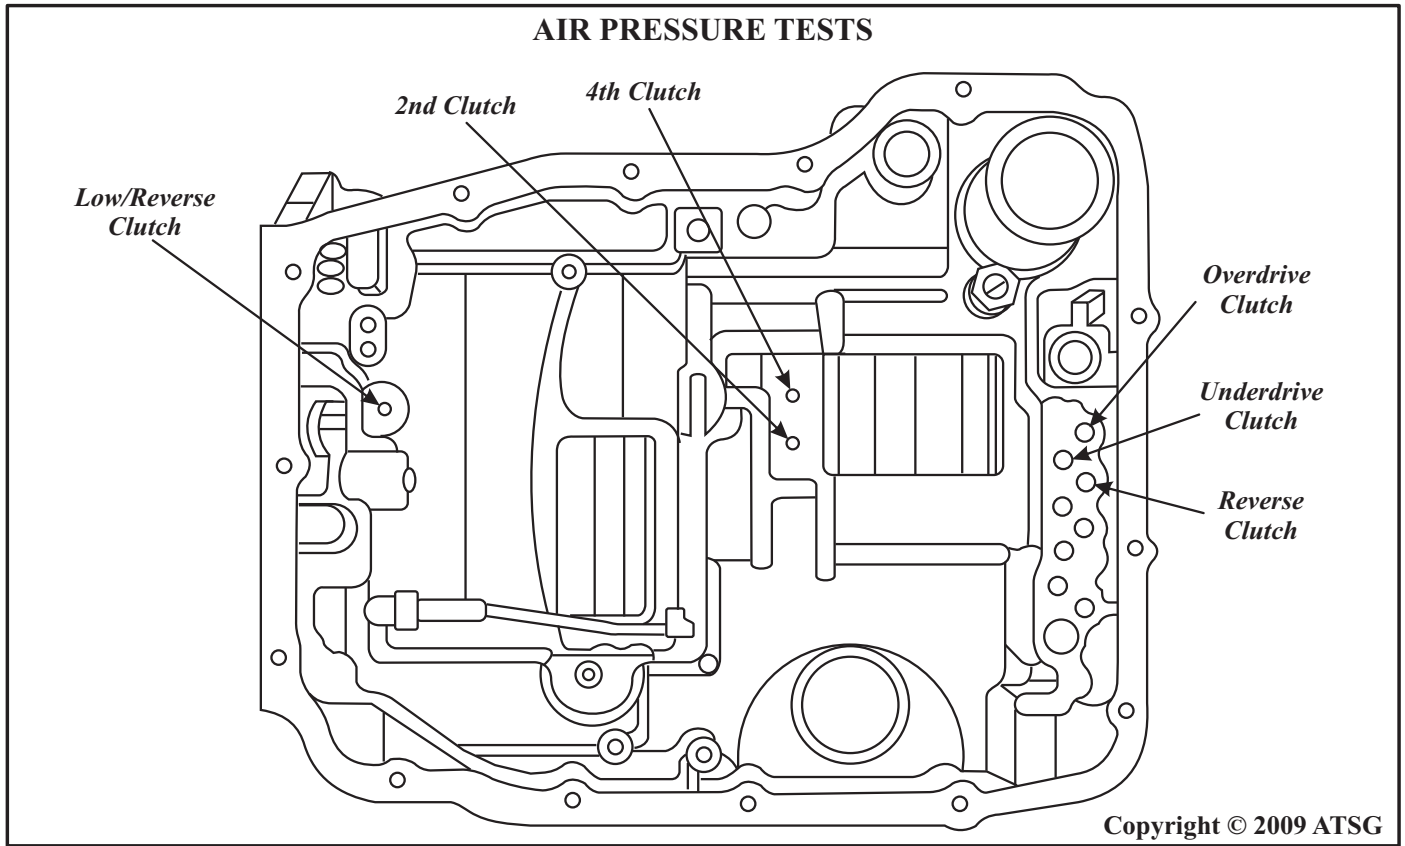

Figure 125
51. Air pressure test all clutch components again at this time before valve body is installed using Figure 125 as a guide.